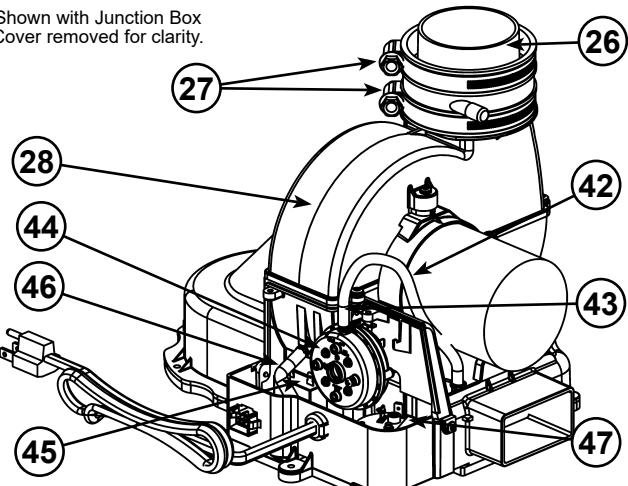

Figure 62.
- 26 ****Rubber Coupling (see Figure 5) (see also Figure 62)
- 27 Gear Clamp (see Figure 5) (see also Figure 62)
- 28 ***Blower with Power Cord (see Figure 5) (see also Figure 62)